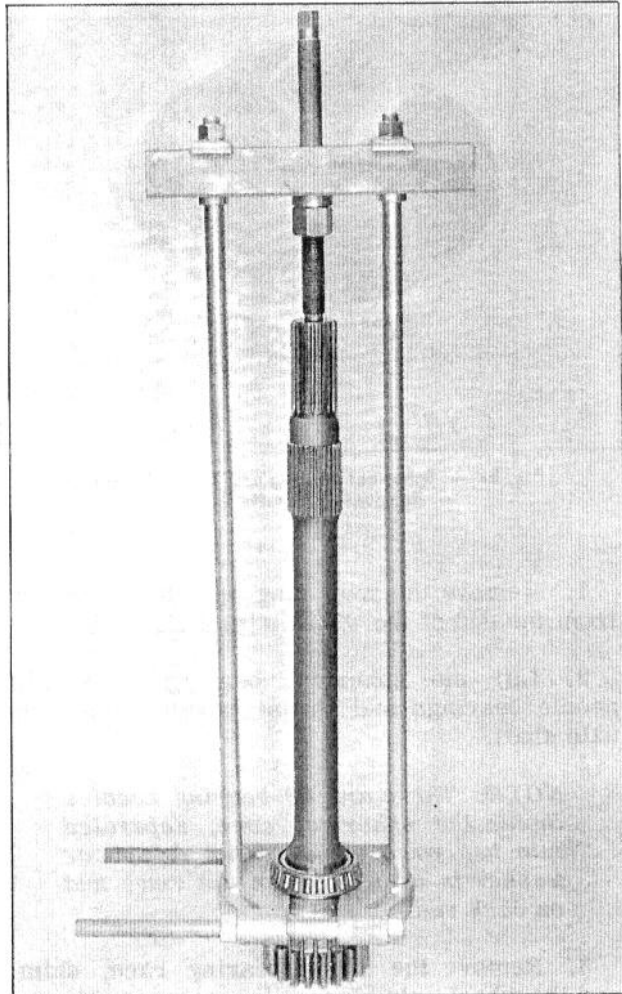

Fig. 97 - Axle Bearing Cone Removal
10. Remove the bearing cone from the axle shaft. Refer to Fig. 97.